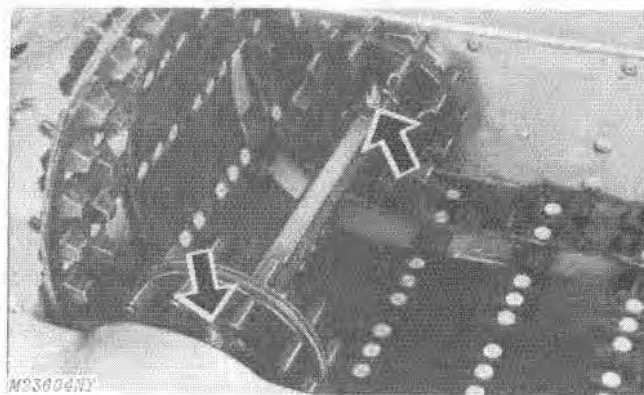

Fig. 19-Drive Wheels Secured to Shaft
6. Move drive wheels into position and secure with bolts, washers and lock nuts, Fig. 19.